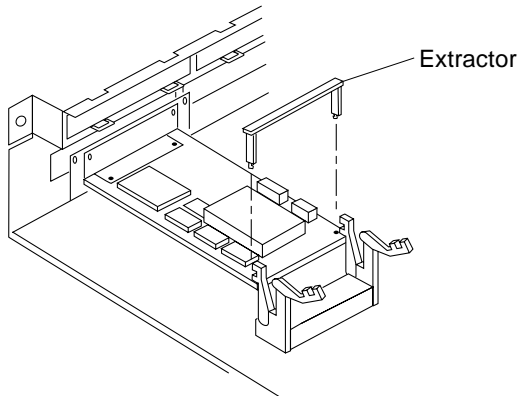

FIGURE 10-5 Installing the Card Extractor
- 6. Insert the extractor into the SBus card (FIGURE 10-5).**